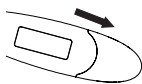

Figure 3
2. Pull battery cover off as shown in Figure 3